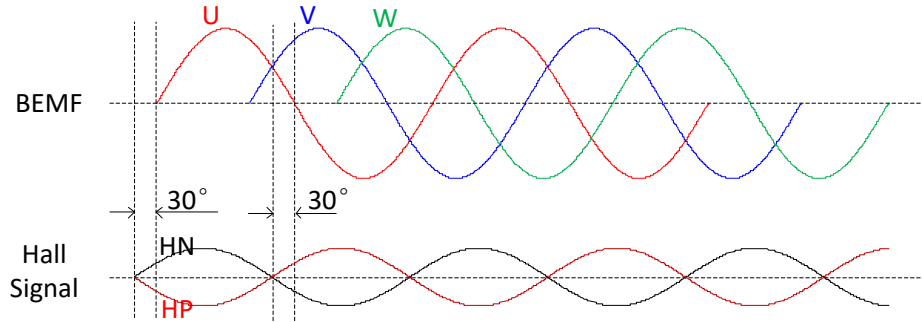

Figure 13. Hall Placement=30° HallPos=1 Hall Element Input
(3) Phase U is leading phase V by 120°. Phase V is leading phase W by 120°. The hall positive output is 30° leading of BEMF of phase U in the opposite direction. Set the register HallPos to 1. The sequence is shown in Figure 13.